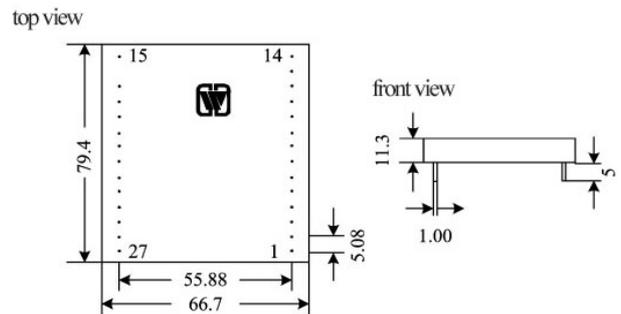

Fig.10 Outside view of package
**10 External dimensions and description of package (unit: mm) (Fig.10)**